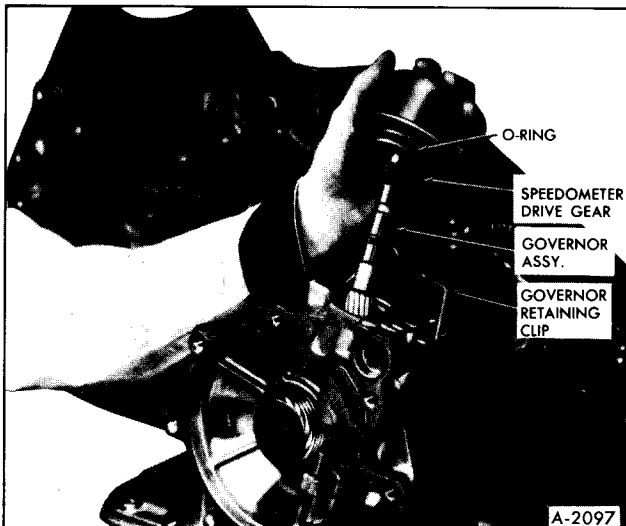

Figure 22—Governor Removal
5. Remove governor assembly and "O" ring seal from case bore. (figure 22)